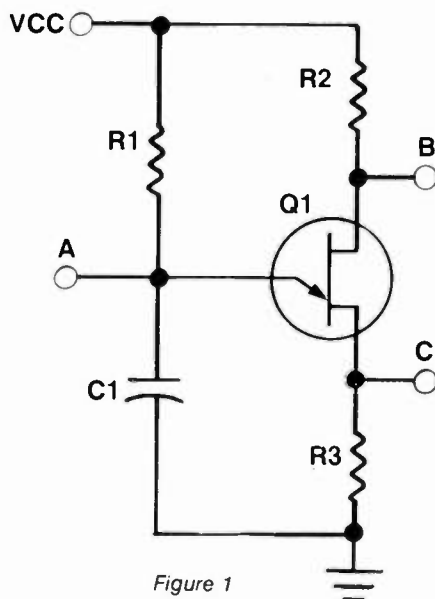

Figure 1
2. In figure 1, Q1 is a:
3. The output frequency of the device in figure 1 is primarily controlled by:
4. A scope connected to terminal B in figure 1 would display:
5. In figure 1 the name of the Q1 terminal at C is:
6. In figure 1 when terminal A is forward biased with respect to terminal C: